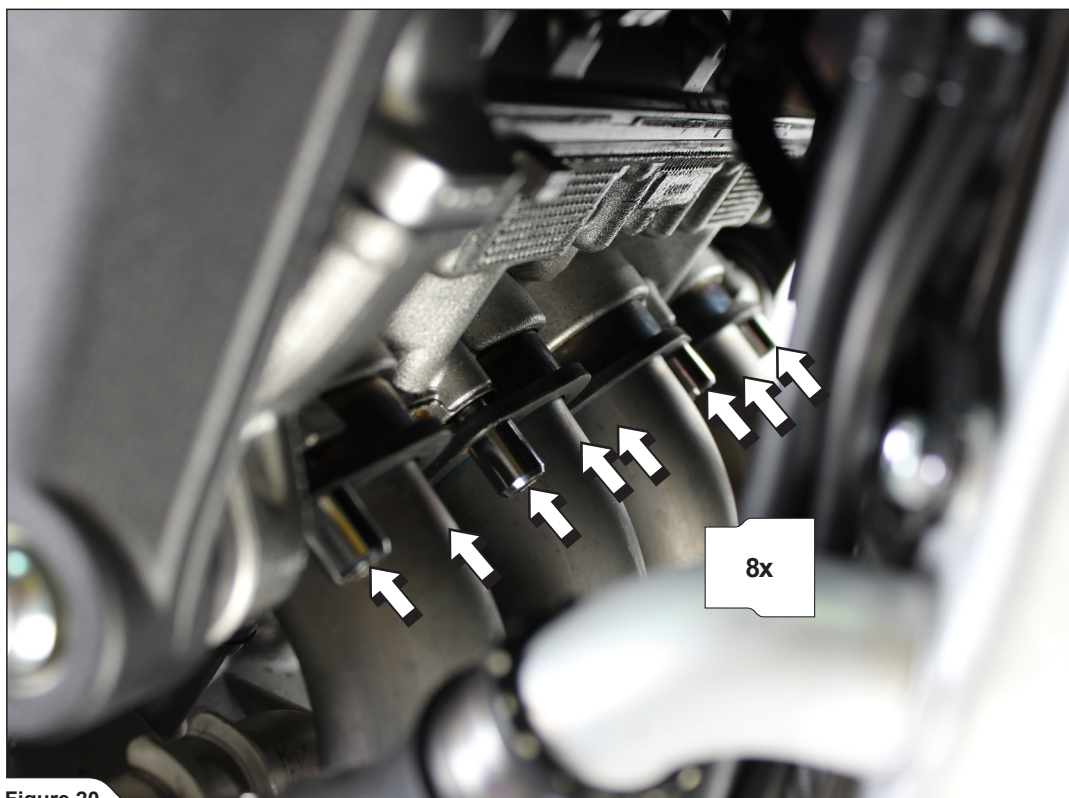

Figure 20
16. Unscrew header flanges and carefully remove stock headers off the motorcycle (Figure 20).